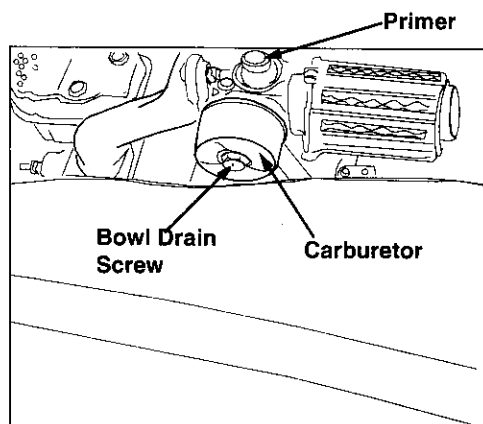

Figure 20
- Loosen the bowl drain screw **a few turns**. The bowl drain screw is located below the carburetor. See Figure 20. Do not remove the screw completely. Drain the carburetor